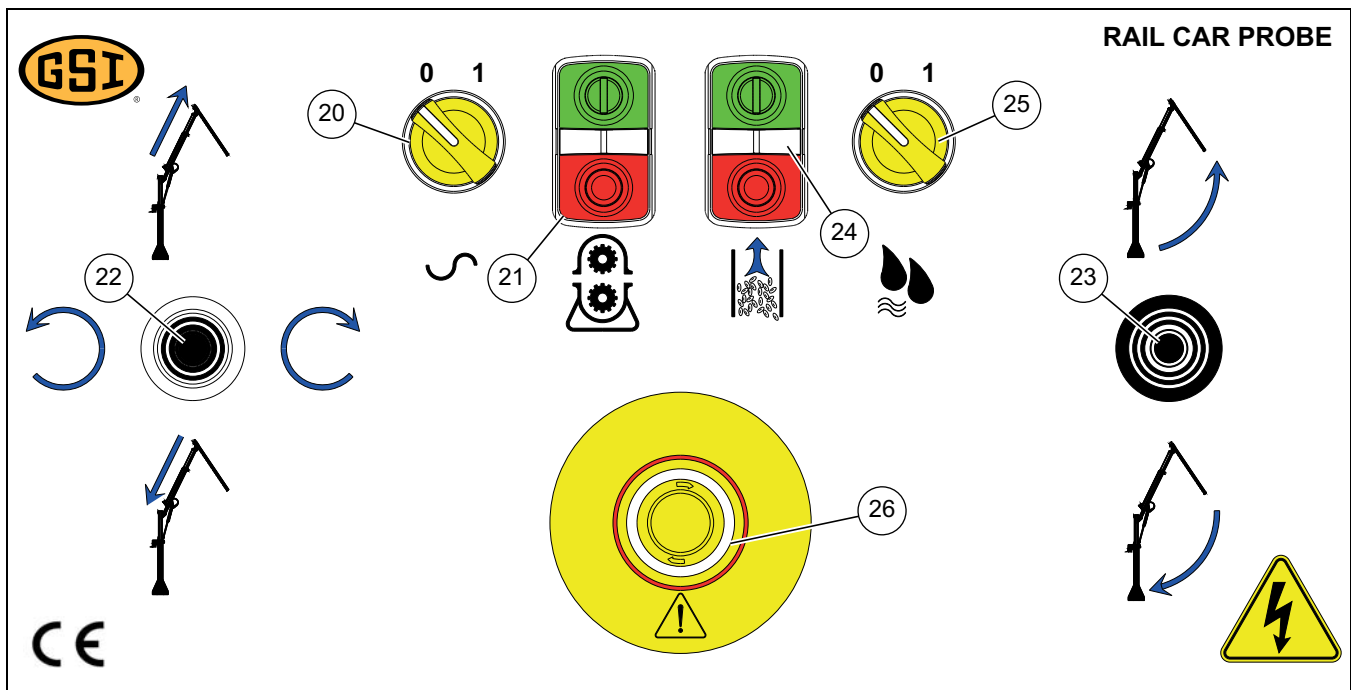

Figure 4B Operator Control Console Legend
1. Ensure all personnel are clear of the safety zone around the sampler. *(See Figure 4B on Page 21.)*
2. Close the main disconnect on the power panel. *(See Figure 4B on Page 21.)*
3. Start the control power. *(See Figure 4B on Page 21.)*
4. Start the hydraulic pump and check motor rotation is as marked. DO NOT run the pump in reverse as damage will occur. *(See Figure 4B on Page 21.)*
- e. Start the system and gradually pressurise the section being bled by operating the control joy-sticks. *(See Figure 4B on Page 21.)*